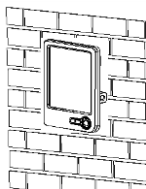

Fig 2-15 Hook Solar Eye on the wall
4) Hook the Solar Eye over the two screw nails. Fig 2-15 as below: